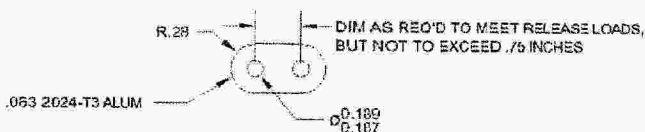

Figure 2
- a. Tow release spring tension is checked by applying a force of 5-20 lbs. (10-30 lbs. for C.G. hook install) at the end of the release arm. The hook should then release. If tension is not within this tolerance, the spring should be replaced. See Figure 2 & Service Bulletin SA-001.